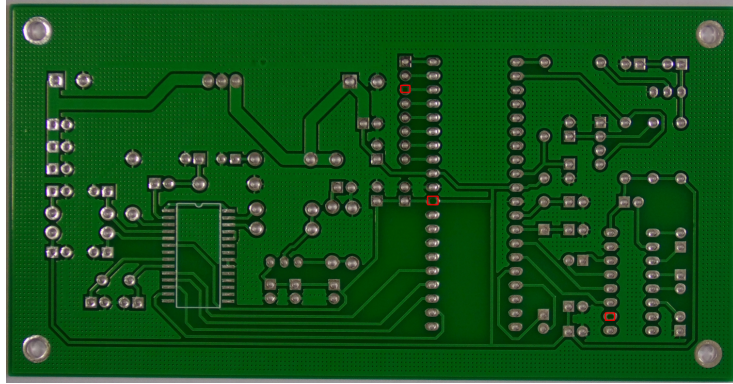

Figure 1: PCB with some errors highlighted.
The goal of this project is to use Structural Similarity to compare the faulty PCBs to the correct ones to find the differences between them and to thus find the errors in the faulty one. **Structural Similarity** is a perceptually based metric used to compute the difference between two images. Create a `results` folder in the `test` folders and save for each input image a results image where the located defects are indicated by drawing their bounding box, as shown in Figure 1. To compute the Structural Similarity you can use **the function implemented in `ssim`**.
- In each test folder you should create a **output** folder containing the input images with the detected defects highlighted as shown in Figure 1. You should also create a **processed** folder, this folder contains the test images after you have processed them before performing the SSIM computation.